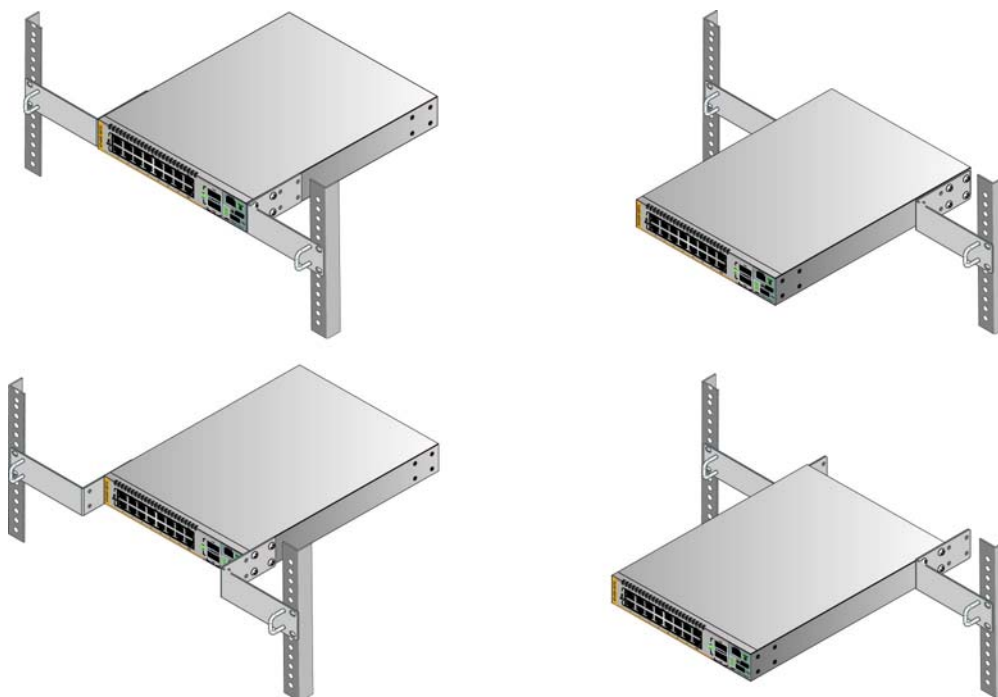
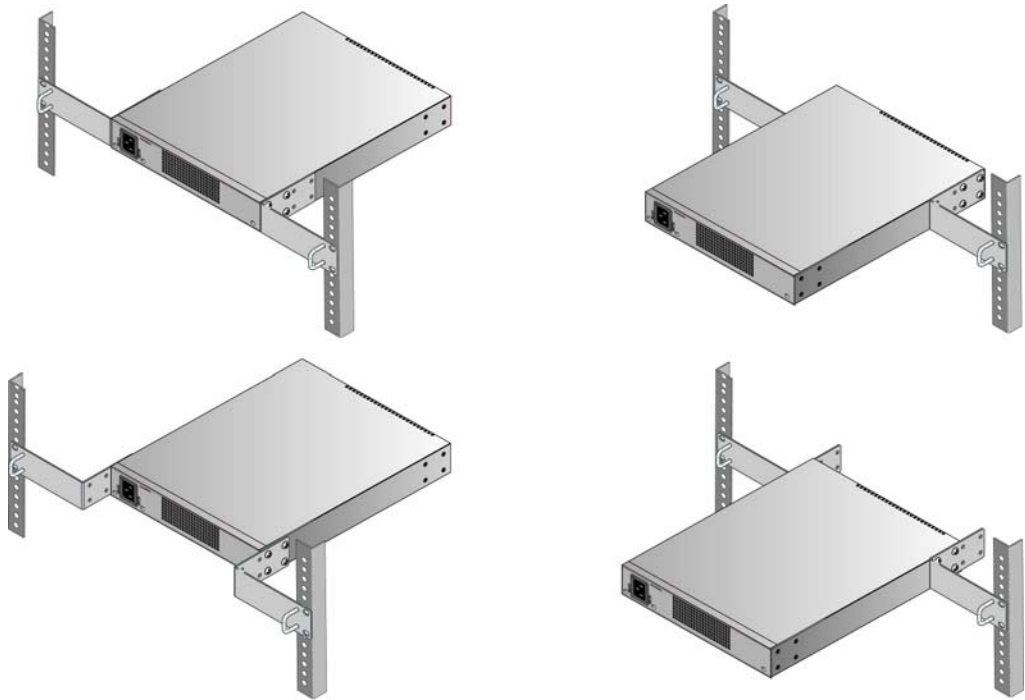
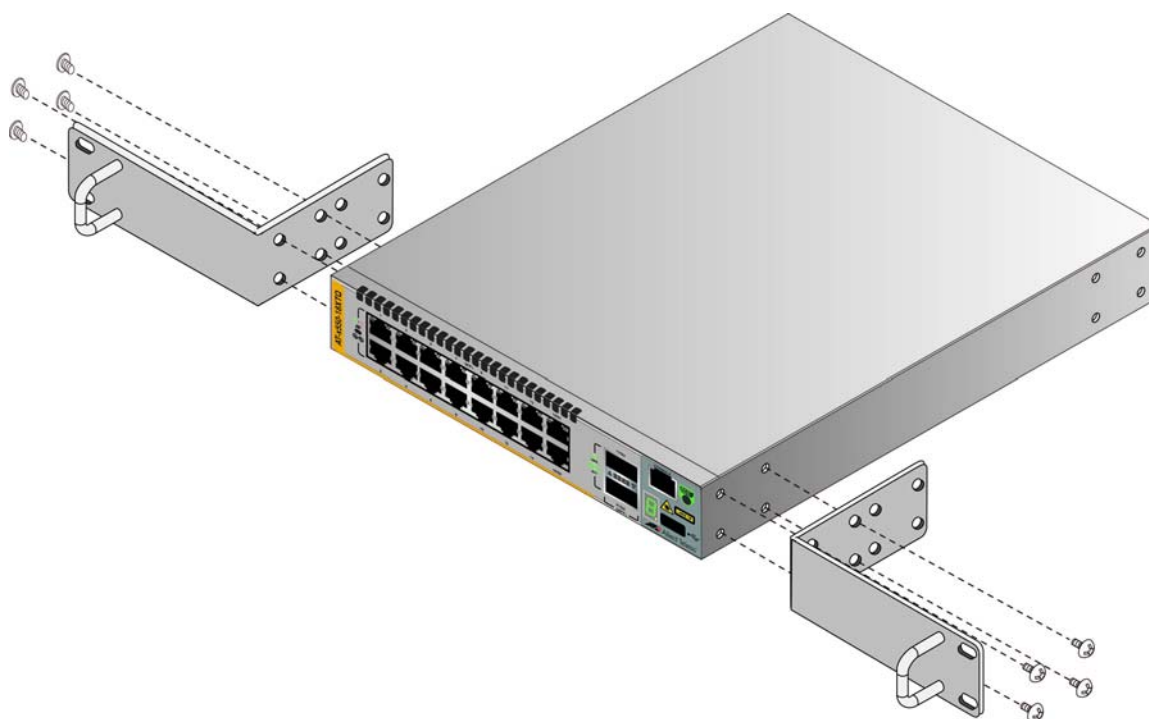

Figure 23. Switch Orientations with the Front Panel Facing the Front of the Equipment Rack
Figure 24. Switch Orientations with the Rear Panel Facing the Front of the Equipment Rack
Figure 26. Attaching the AT-RKMT-J14 Brackets to the Switch
You can use the different sets of holes on the switch and brackets to install the switch in the equipment rack in a variety of orientations. You can install it with the front panel flush with, extending in front of, or recessed behind the front of the equipment rack. The illustrations in Figure 23 show the switch orientations with the front panel facing the front of the equipment rack.
You can also orient the switch with the rear panel facing the front of the equipment rack. Refer to Figure 24.
3. Attach the two brackets to the sides of the switch in the selected position, using the eight M4x6mm screws included with the unit. (Refer to Figure 23 on page 64 and Figure 24 on page 65.) The illustration in Figure 26 shows the installation of the brackets such that the front panel of the switch is even with the front of the equipment rack.